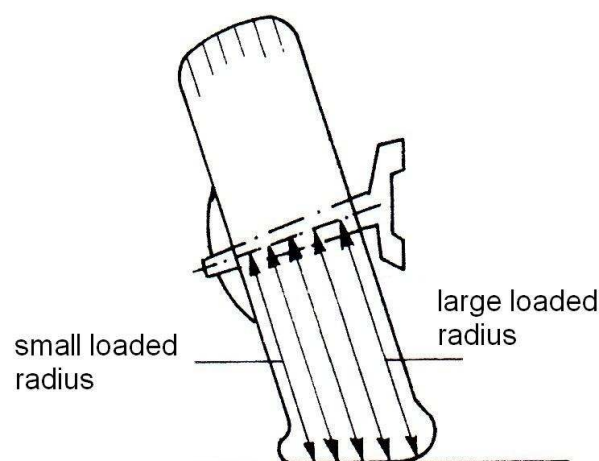

Figure 4: one-sided tyre wear
4. Single-sided tread wear is usually caused by an incorrect camber. The wheel is then out of square on the road surface. With the deformation of the tyre the wheel turns on different circumferences (figure. 4). One side will slip and result in shoulder wear without ridge formation. This can be remedied by aligning the vehicle. Single-sided wear over a small part of the circumference signifies run-out (eccentricity) of the tyre or the wheel.